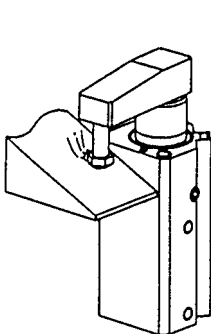

Figure 6
- ④ Make sure that the clamping surface of the workpiece is perpendicular to the cylinder's axial line (Fig. 6).